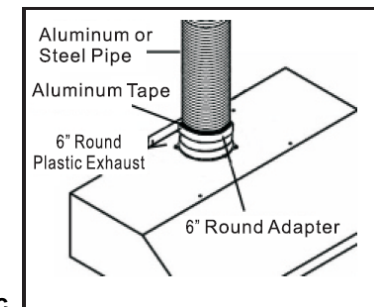

Fig. 2d
- m. Connect 6" ducting to the collar of the unit and secure it with aluminum tape. (**Fig. 2d**)